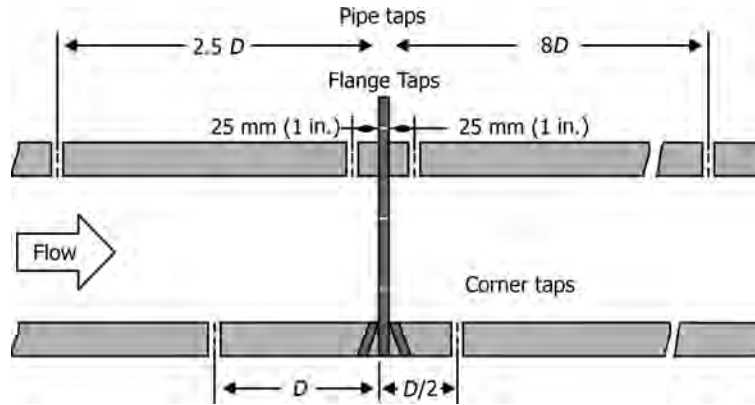

FIGURE 4.6 Pressure tap location alternatives.
- Figure 4.6 illustrates orifice tap location alternatives.